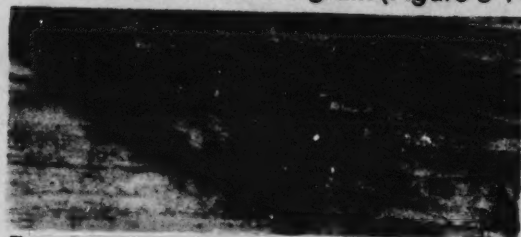

Figure 5-13 Lay the plane on its side when not in use
4. When not using the plane, lay it on its side to keep the blade from being nicked (Figure 5-13). When the cutting edge is nicked or dulled, the board cannot be planed smoothly.